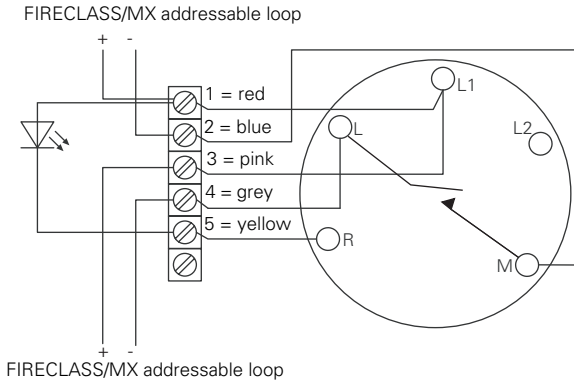

Fig. 8: 4B-C Base Wiring Diagram for use with 850PH
- 3 Connect the cables in accordance with the wiring diagram (see Fig. 8).